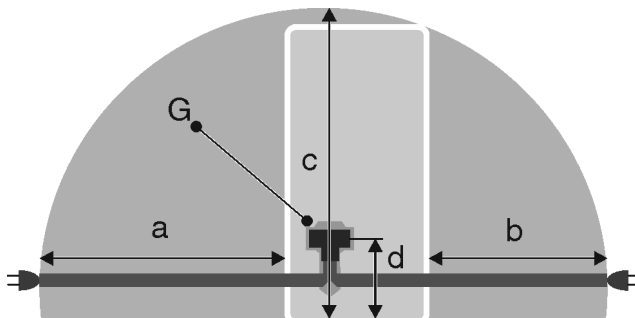

Fig. 25
- The socket is outside the back of the appliance area in the specified area *Fig. 25 (a, b, c)*.
- Insert the appliance plug *Fig. 25 (G)* into the back of the appliance. Ensure that it clicks into place.